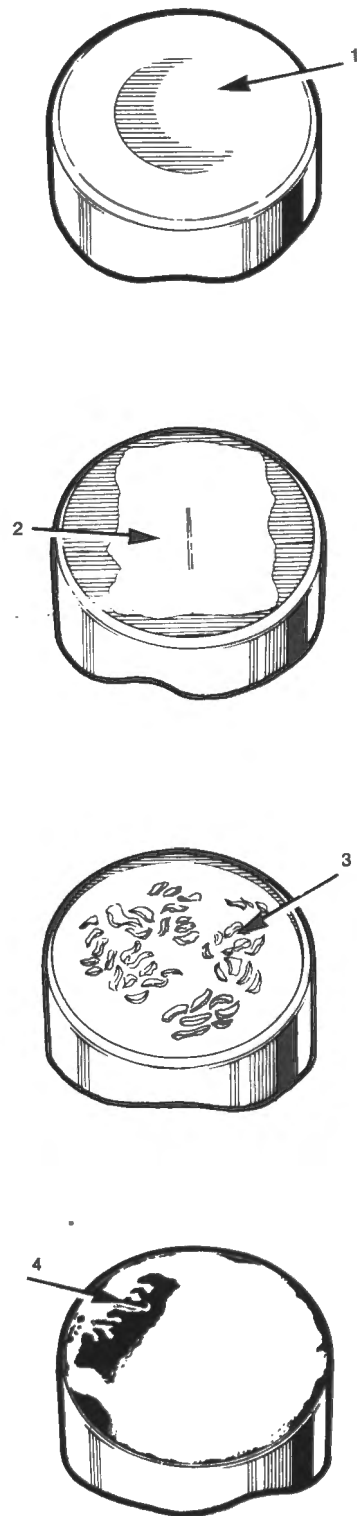

Fig. D-39
- (a) Refer to Fig. D-39. Inspect the cam contact face of the lifter for excess wear or surface damage.